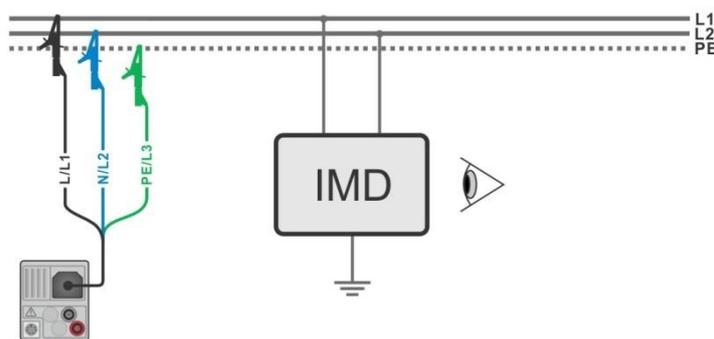

Figure 7.86: Connection with 3-wire test lead
- › Connect test leads to the object under test, see **Figure 7.86**.